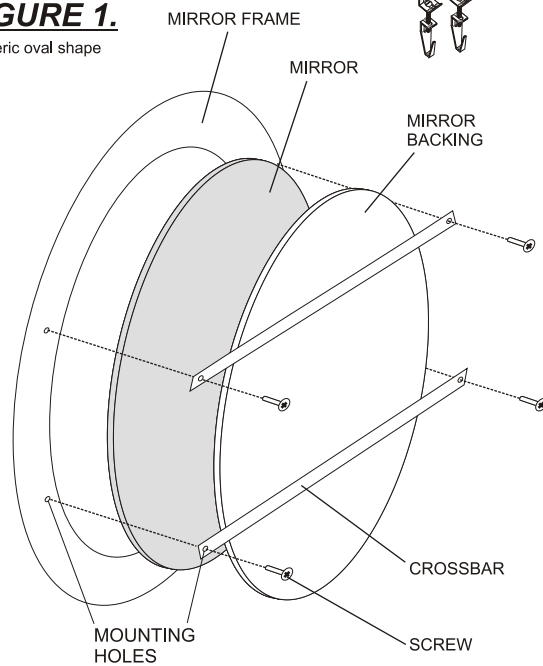

FIGURE 1.
1. Carefully unpack MIRROR from carton and refer to illustration FIGURE 1. for parts identification. Note all illustrations are generic for graphic clarity. Actual shape depends on style purchased.
2. (Refer to Figure 1) Locate the MIRROR FRAME and place finished side face down on level work surface. Carefully place the MIRROR (reflective side) into the frame. Locate the MIRROR BACKING and place over the backside of MIRROR. Locate the (2) CROSSBARS and align MOUNTING HOLES at ends with MOUNTING HOLES on backside of MIRROR FRAME. Secure CROSSBARS using (4) SCREWS. Hand tighten screws until snug.